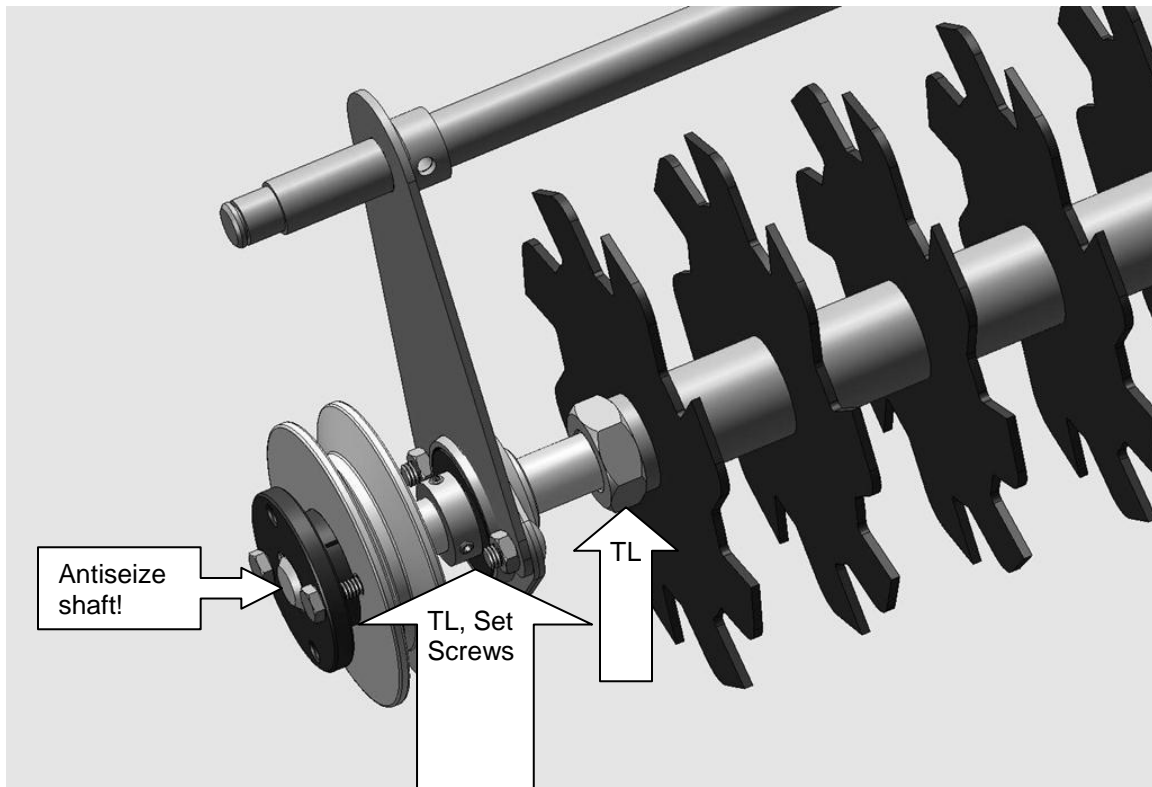

Figure 13. “TL”-Thread Lock.
8. **Note: Also make sure that thread lock is used on all set screws and the jamb nut. Also use anti-seize on all bearings and pulleys (any metal to metal surface) as you slide them on the shaft. See figure 13.**